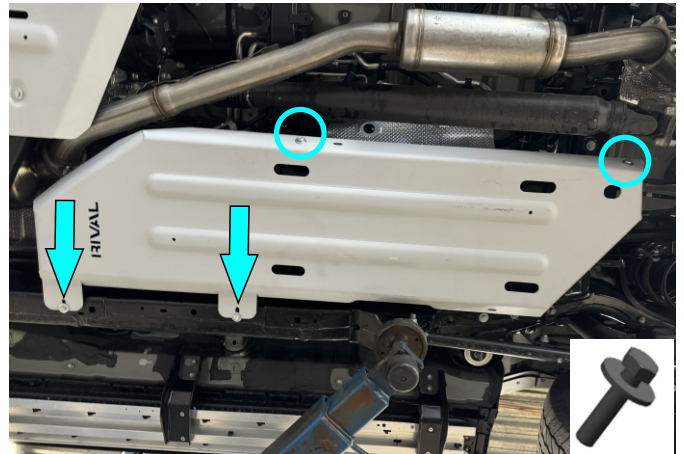

Fig. 7
4. Slide skid plate (item 1) over the previously installed hardware from step 3 and secure the other side using M8x25 bolts and M8 washers (items A, B) as shown in fig. 7.